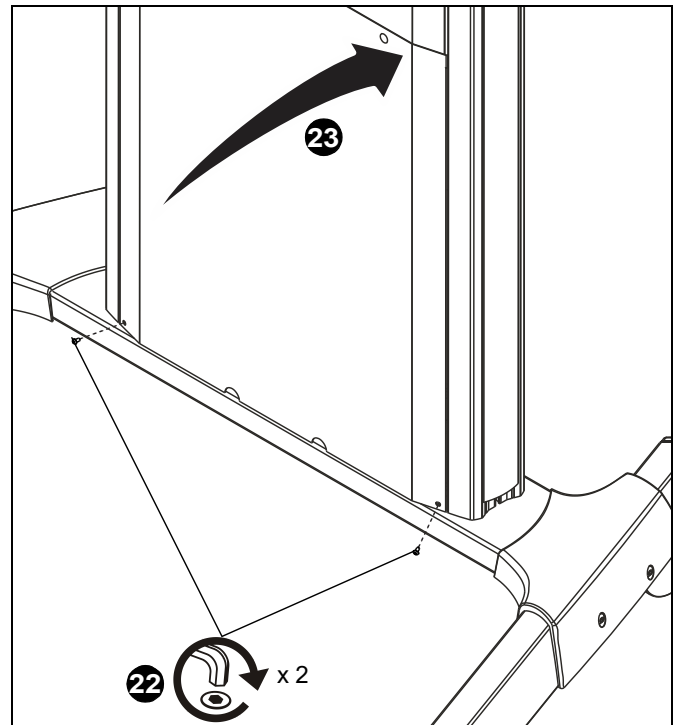

Figure 11
22. Reinstall front cover by using two screws removed in Step 22. (See Figure 11)